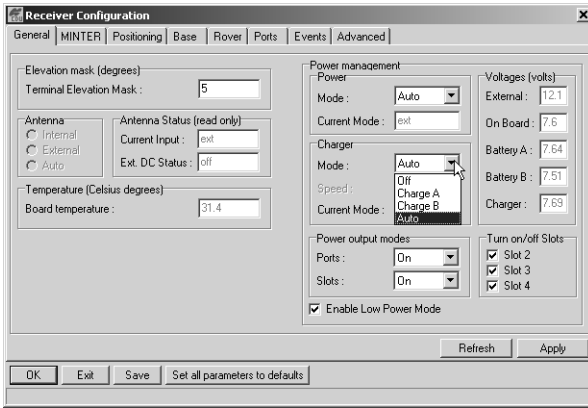

Figure 2-15. Select Charger Mode
- Select the Charger Mode drop-down list to set the desired charger mode (Figure 2-15). Current Mode displays the charging battery: a, b, or none (off).